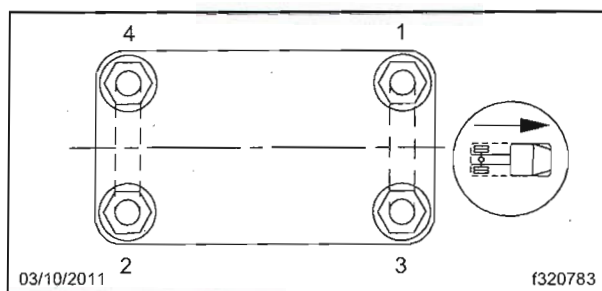

Fig. 2, Tightening Pattern for U-Bolt High Nuts
If no cracks are visible, torque the U-bolt nuts to 420 to 500 lbf-ft (571 to 680 N-m), following the sequence shown in Fig. 2.
11. Hand-tighten the U-bolt high nuts, following the sequence shown in **Fig. 2**, then using a torque wrench, tighten them 60 lbf-ft (81 N·m). Repeating the pattern, tighten them 200 lbf-ft (271 N·m); finally, tighten to 420 to 500 lbf-ft (571 to 680 N·m).